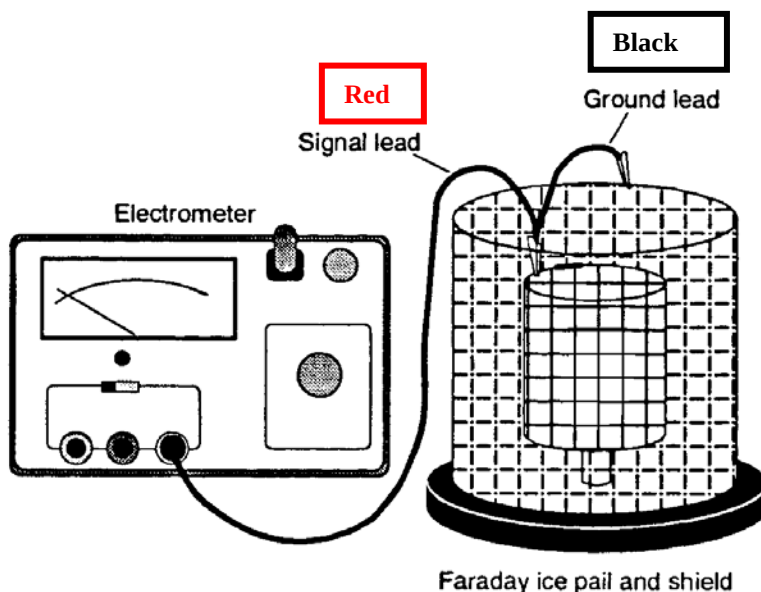

Figure 9-5. Connecting the electrometer and the Faraday ice pail.
- Connect the leads of the test probe to the Faraday ice pail, as shown in Figure 9-5.